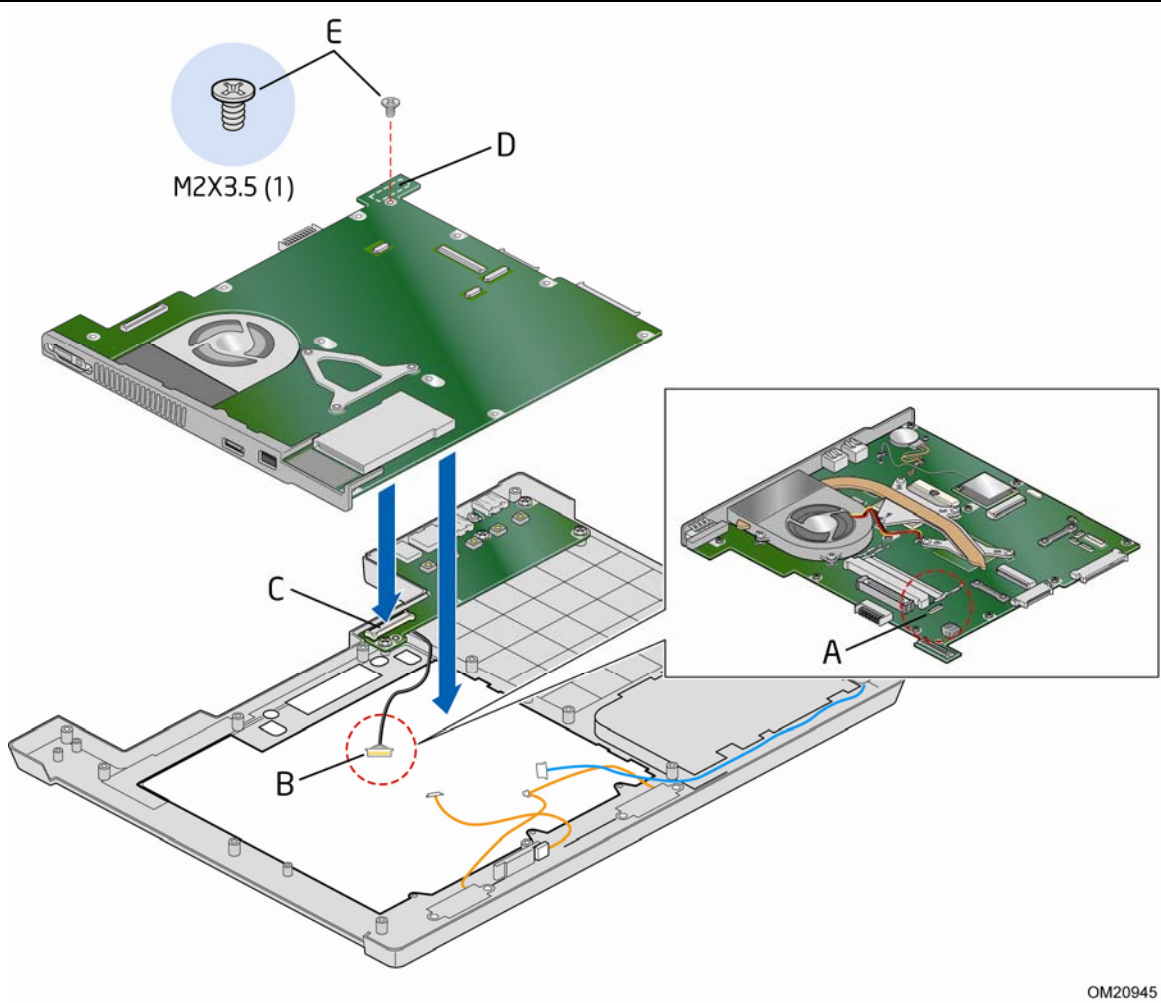

Figure 14. Connecting the Mobile Board to Expansion Board A
To connect the Mobile Board to Expansion Board A, see Figure 14 and follow these steps:
1. Connect the Expansion Board A cable (Figure 14, B) to the Expansion Board A connector (Figure 14, A) on the bottom of the Mobile Board.
2. Turn the board over and place it into the D-tray as show in the figure. Take note of the location of the Expansion Board A board-to-board connector (Figure 14, D) on the bottom of the Mobile Board.
3. Connect the Mobile Board board-to-board connector (Figure 14, D) to the board-to-board connector (Figure 14, C) on the top of Expansion Board A and snap them together. The Mobile Board mounting holes will align with the matching standoffs in the D-tray.
4. Secure the Mobile Board to Expansion Board A with the screw (Figure 14, E) supplied with Expansion Board A.